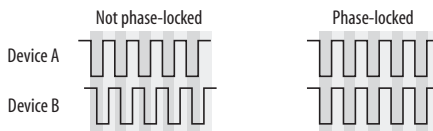

Figure 4-16: When transferring audio, two devices must have phase-locked audio clocks to prevent clicks, pops or other artifacts.
- The 2408mk3 or other interface is connected to other digital audio devices, and their digital audio clocks need to be *phase-locked* (as shown in Figure 4-16).